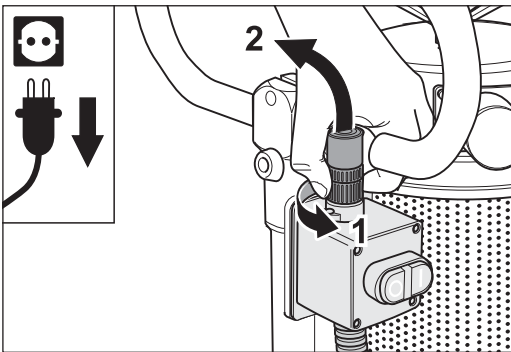

Fig. 87 Loosen the ring nut (1) and remove the cable plug from the switch (2).
- 4 Loosen the cable plug of the sensor on the ON/OFF switch by turning the ring nut **counterclockwise** (fig. 87. 1) and pull the cable plug off (fig. 87. 2).